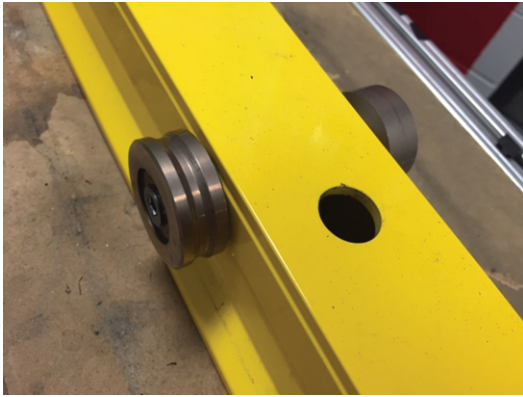

Figure 16:
20. Make sure that all of the rollers roll freely without wobble (Figure 16 on page 6). Using a torque wrench and a 1/4" hex wrench, make sure that the roller torque is 235-317 in-lb.